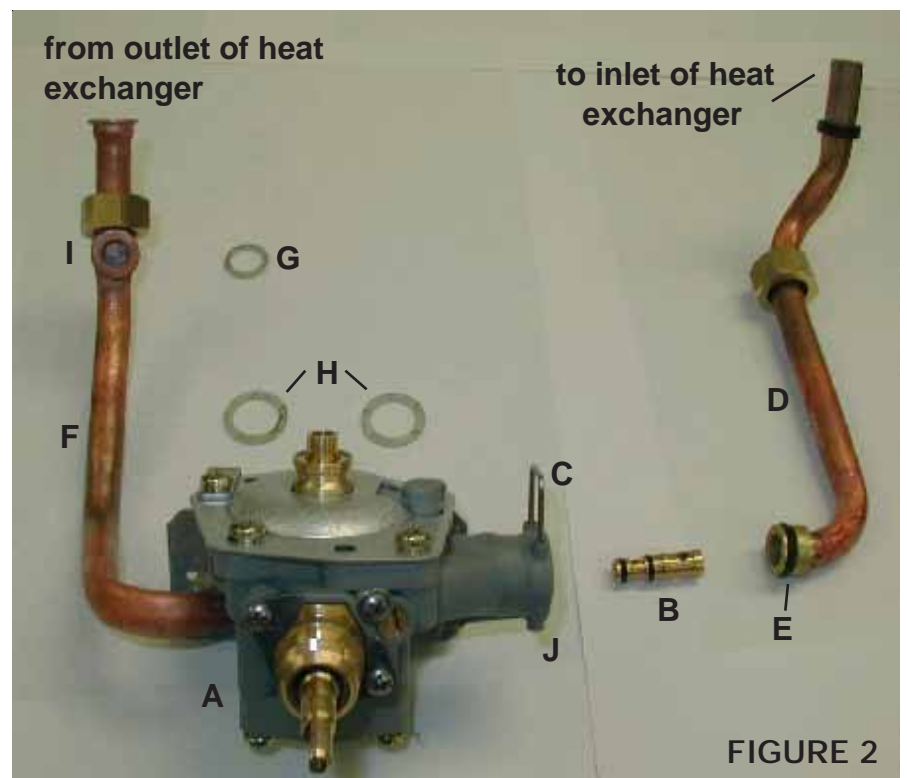

FIGURE 2
C. Installing Plastic Water Valve, refer to Figure 2
1. Insert venturi (B) with o-ring end first into right side of plastic water valve cold water outlet (J). Push in gently to make sure it is seated in place.
2. Attach plastic water valve (A) to gas valve using set screws described in step B1, making sure water valve top is flush to bottom of gas valve, begin to tighten evenly but leave screws a little loose for now. We suggest use of an anti seize compound on screw threads. Cold inlet and hot outlet connections should be facing the back.
3. Place rubber o-ring (E) onto end of new cold water pipe (D), insert the other end of the new cold water pipe into inlet of heat exchanger and loosely tighten retaining nut. Insert o-ring end into right side of water valve (J) and push in firmly. Insert retaining pin (C) from top into two holes to hold pipe in water valve. Retaining pin should go all the way in for connection to be correct. Tighten retaining nut on inlet pipe to heat exchanger.